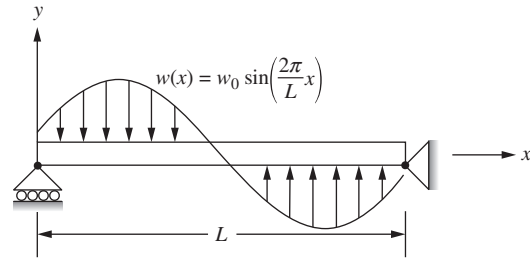

Figure P8.30 A simply supported beam for problem P8-30.
- 8-30.** A simply supported beam is subjected to a sinusoidal distributed load, as shown in the Fig. P8.30. The deflection $y(x)$ of the beam is given by